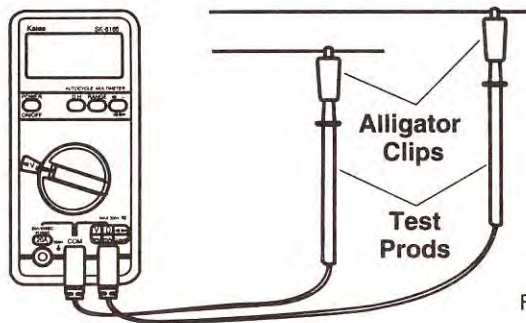

Fig. 3
9. Turn on power to the circuit to be measured and read the voltage on LCD. Refer to the figure 3.